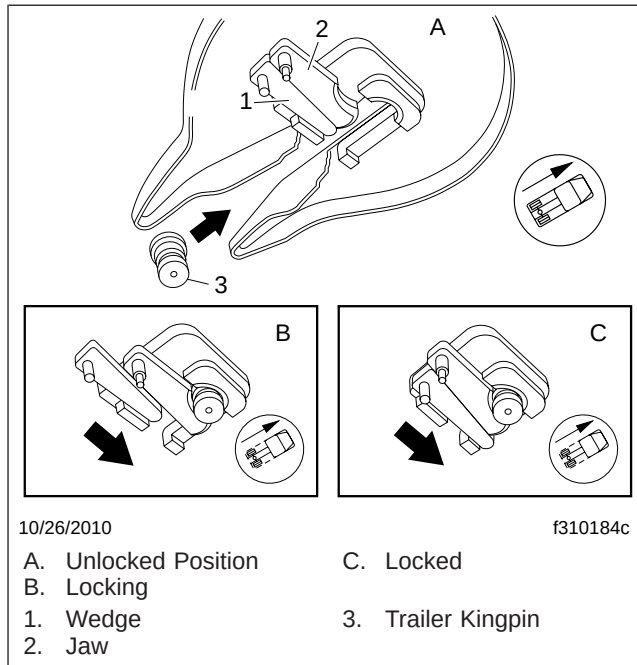

Fig. 10.15, Fontaine Kingpin Lock Mechanism
Fifth Wheel Lock Mechanism for Trailer Kingpin (Fig. 10.15)
During coupling (**Fig. 10.15**), the motion of the kingpin entering the jaw will actuate the jaw and wedge. The jaw will move behind the kingpin, followed by the wedge. The purpose of the wedge is to reinforce the jaw and take up slack around the pin. Any wear on the jaw is immediately taken up by the wedge so there is no slack in the connection.
3. Position the tractor so that the fifth wheel lock opening is in line (both vertically and horizontally) with the trailer kingpin. The kingpin should be in a position to enter the throat of the locking mechanism (**Fig. 10.15**). Adjust the trailer landing gear to give enough alignment height for positive kingpin lockup.